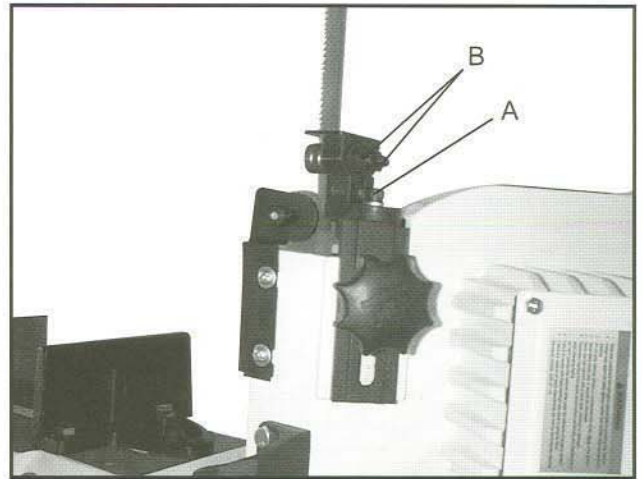
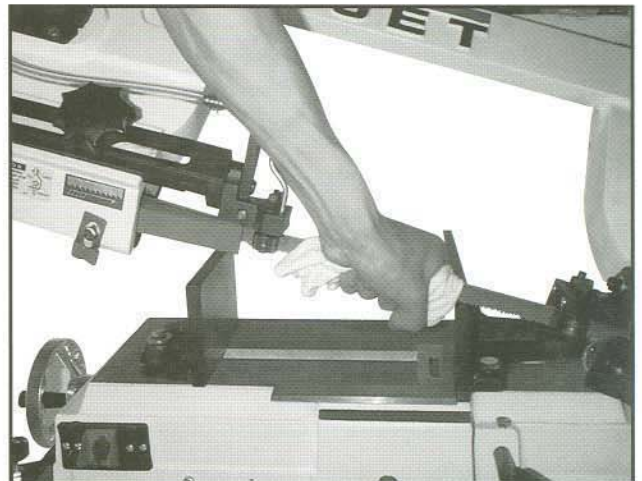

Fig. 16
Fig. 17
3. Loosen the hex cap screw (A, Fig. 16) and adjust assembly so that the back roller bearing is approximately .003" - .005" from the back of the blade.
4. Turn nut (B, Fig. 16) to adjust the eccentric bearing snug to the blade. Blade should still move up and down freely when grasped as in Fig. 17. **Warning! Make sure power is disconnected and hands are protected before handling blade.** Be sure that the blade teeth do not interfere with the roller bearings.